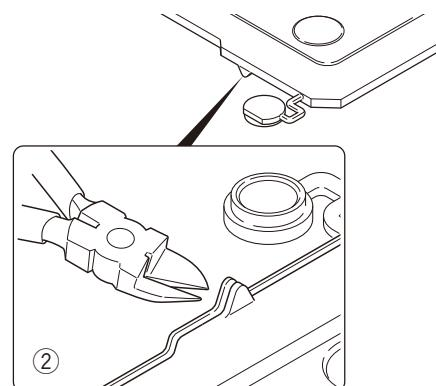

Fig. 6-3 / 图 6-3
Note: If the GPS receiver is installed, cut the base of the convex tab of the top packing with a pair of nippers, or similar tool. (Fig. 6-3 ②)
- 注意:** 如果安装了 GPS 接收机, 请用镊子或类似工具剪断顶盖凸起的底部。(图 6-3 ②)